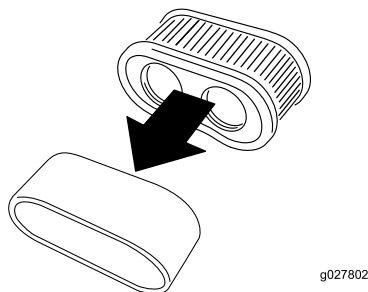

Figure 34
5. Remove the foam element from the paper element (Figure 34).